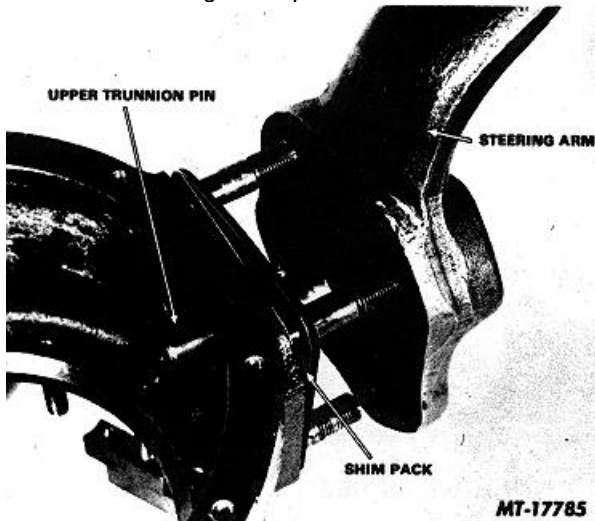

Fig. 9 Steering Arm Removal
- 10. With tapered dowels removed, pull steering arm off of mounting studs and upper trunnion pin (Fig. 9).